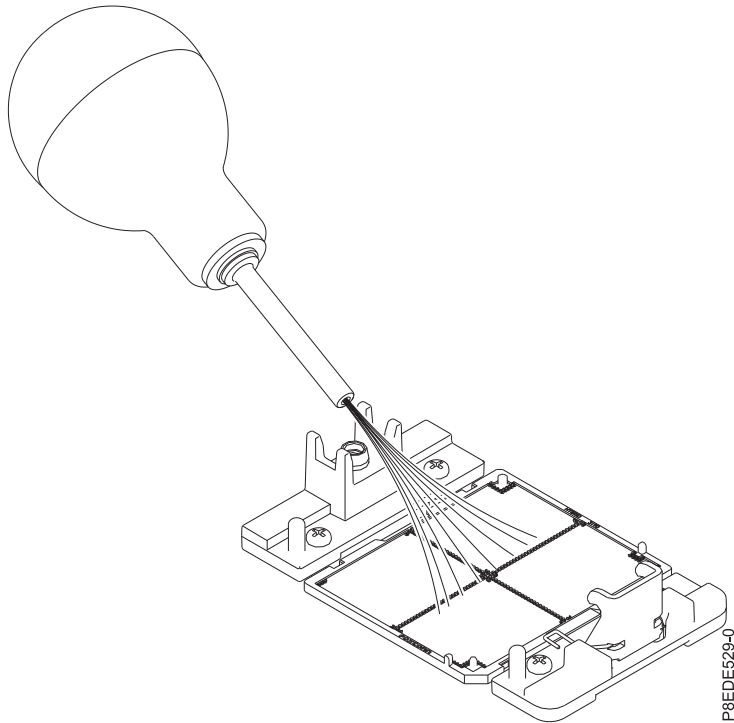

Figure 86. Removing dust and debris from the system processor socket
- a. If dust or debris is present on the system processor socket, use the supplied air pump (part number 45D2645) to clean the socket. If your air pump is not assembled as shown in Figure 86 on page 85, fasten the tip onto the bulb. Blow small bursts of air from the center toward the sides of the socket, as shown Figure 86 on page 85.